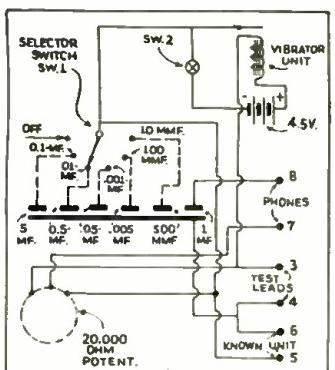

Fig. 3. Condenser tester.
**C**ONDENSER TESTER. Where power lines are not available, the bridge-type condenser tester described in the July, 1935 issue of *Radio-Craft* may be adapted for use with batteries by means of the circuit shown in Fig. 3. A high-quality buzzer should be used in order to insure a steady, pure tone. It will be seen that the buzzer takes the place of the winding of the power transformer, while the remainder of the circuit is very similar to the original. The operation is identical with that of the original.